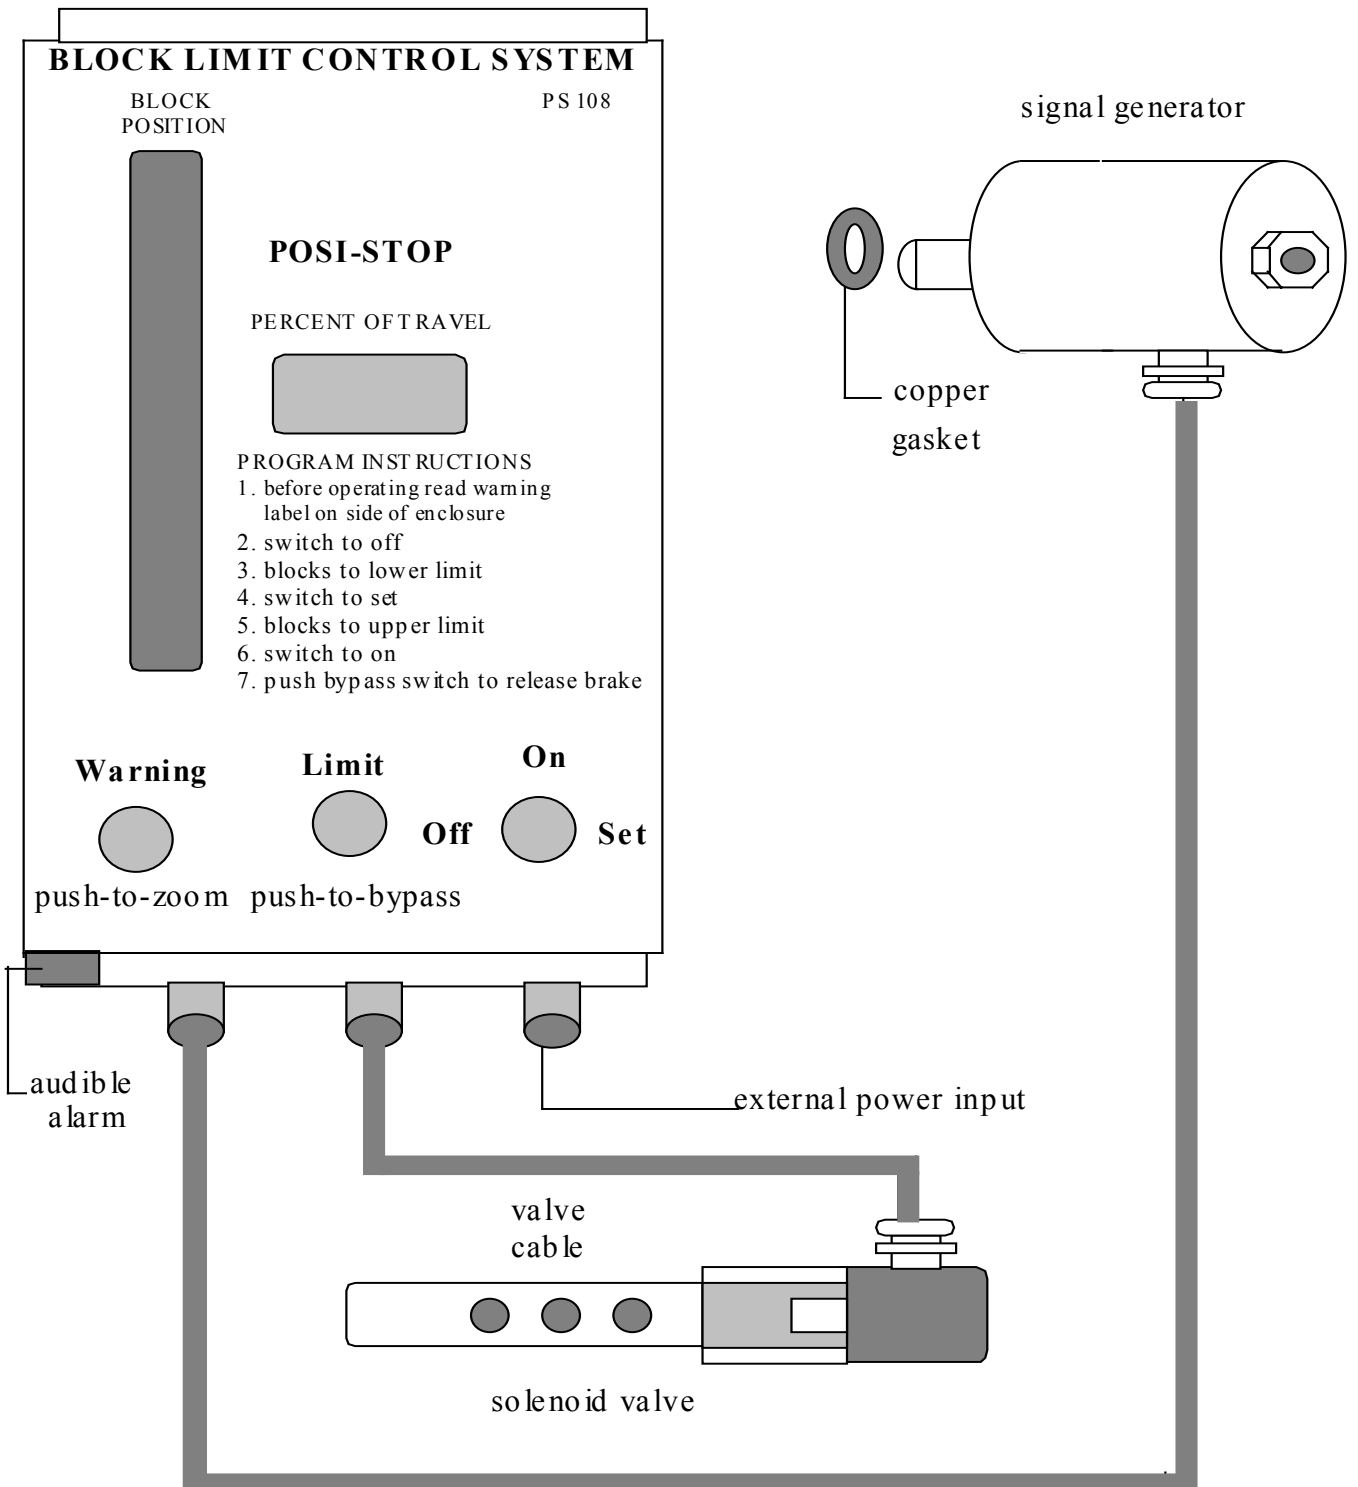

Figure 1.1 POSI-STOP SYSTEM COMPONENTS
The System consists of the following components, which must be mounted in appropriate locations (Figure 1.1):
1.5 Test Procedure (refer to Figure 1.1 for system components)